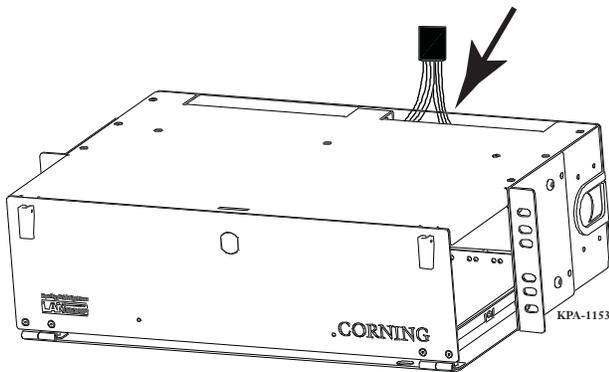

Figure 3
5.2 Pigtailed are routed through the openings in the top and/or bottom of the unit. Determine how pigtailed will be routed and remove the appropriate feed-thru covers (Figure 3).